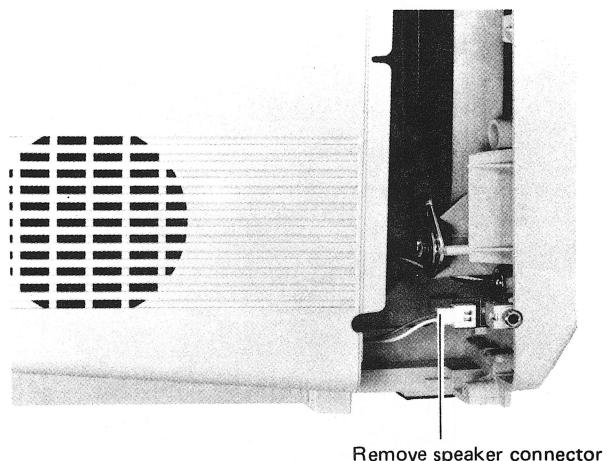

Fig. 4
3. Remove (pull to the rear) the speaker connection near the audio output at the left side of the cabinet. (See **Fig. 4**)